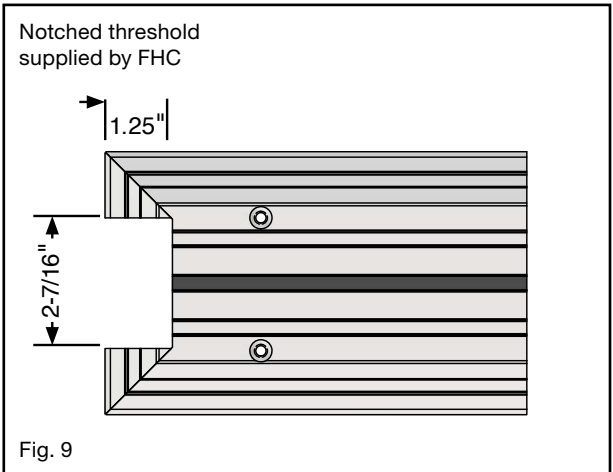

Fig. 9
1. FHC factory prepared thresholds are shipped in two pieces for easy installation with mitered notches and drilled for anchors. **(Figure 9)**